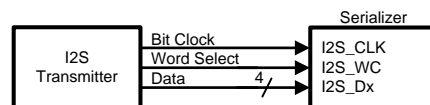
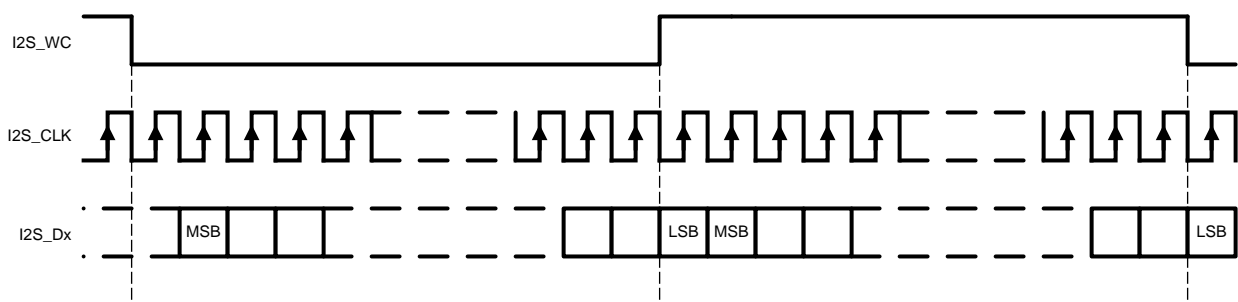

Figure 11. I2S Connection Diagram
Figure 12. I2S Frame Timing Diagram
The DS90UH929-Q1 serializer features six I2S input pins that, when paired with a compatible deserializer, supports 7.1 High-Definition (HD) Surround Sound audio applications. The bit clock (I2S_CLK) supports frequencies between 1MHz and the lesser of IN_CLK/2 or 13MHz. Four I2S data inputs transport two channels of I2S-formatted digital audio each, with each channel delineated by the word select (I2S_WC) input. Refer to Figure 11 and Figure 12 for I2S connection diagram and timing information.